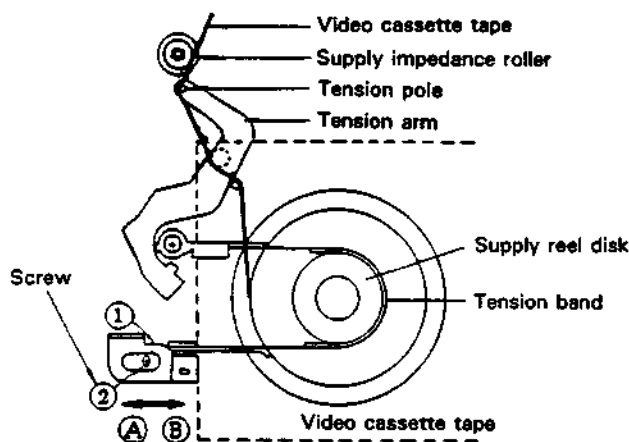

Figure 1-12.
• Position adjustment (Fig. 1-12)
1. If the tension pole is more than 1.0 mm to the right of the supply impedance roller's center, shift the tension band control bracket ① in the direction of arrow → ②, and tighten the screw ②.
2. If the tension pole is less than 0.6 mm to the right of the supply impedance roller's center, shift the tension band control bracket ① in the direction of arrow → ③, and tighten the screw ②.